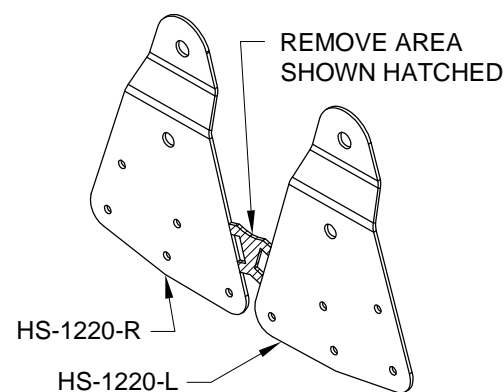

FIGURE 1:
Step 1: Mark and separate the HS-1220-LR AST Control Horns per call-outs in Figure 1.